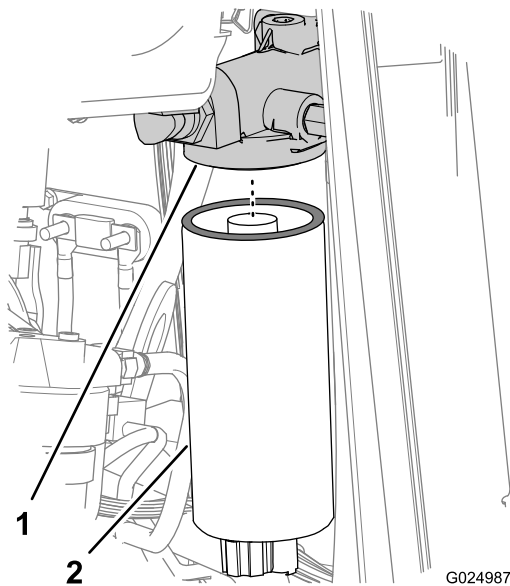
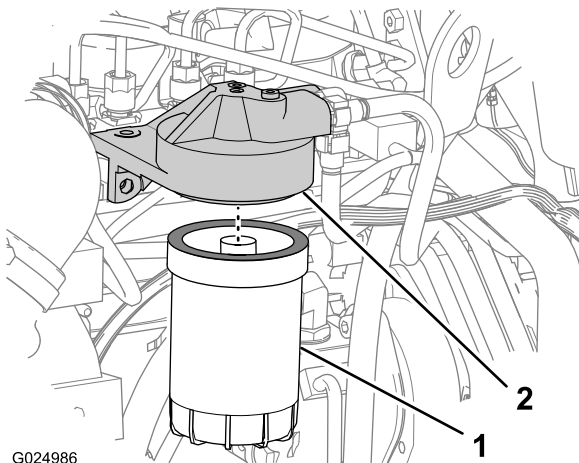

Figure 74
Figure 75
7. Loosen and remove the primary fuel filter (Figure 74).
9. Loosen and remove the secondary fuel filter (Figure 75).
1. Wipe clean the sealing surfaces of the filter adapters for the primary- and secondary-fuel filters (Figure 74 and Figure 75).
3. Install the primary-fuel filter onto the filter adapter, and tighten the filter until the gasket contacts the filter head surface (Figure 74).
6. Install the secondary-fuel filter onto the filter adapter, and tighten the filter until the gasket contacts the filter head surface (Figure 75).